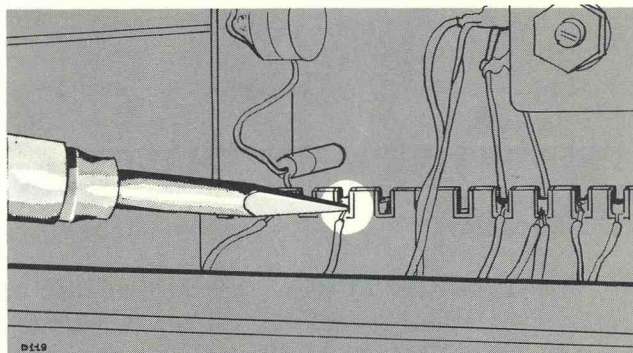

Fig. 4-2. Correct method of applying heat in soldering to a ceramic strip.
4. Apply only one corner of the tip to the notch where you wish to solder (see Fig. 4-2).